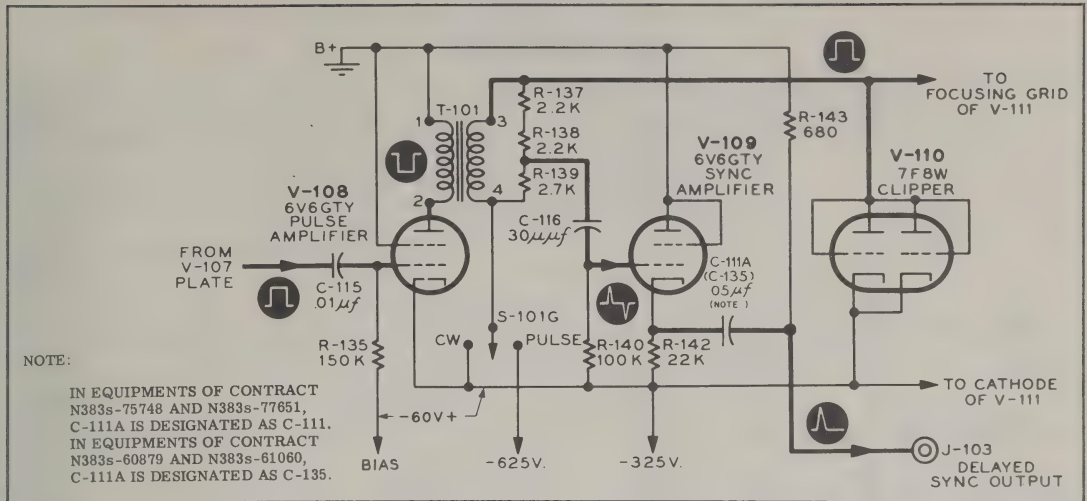

Figure 3-9. Signal Generator TS-419/U, Pulse Amplifier and Delayed Sync Amplifier, Simplified Schematic Diagram
(2) POS MOD OPERATION.—Tubes V-106 and V-107 become a two-stage video amplifier when external positive pulses are used directly to modulate the klystron. By means of S-101F (position B) the grid of V-106 is disconnected from feed back capacitor C-126 and tied to the EXT MOD connector J-104 through C-128. The grid of V-107 is fed from the plate of V-106 by C-114 through S-101E (position B) and R-130 is shorted out by S-101D (position B). These changes are required to provide suitable and fixed time constants in the inter-stage coupling network. The output is taken from the plate of V-107. A positive input pulse overcomes the cut-off bias on V-106, causing plate current flow, and creates a negative pulse at the plate of V-106, thereby cutting off V-107 and causing a positive pulse to appear in the plate circuit of V-107. This pulse is used to drive the pulse amplifier V-108.
f. PULSE AMPLIFIER AND DELAYED SYNC OUTPUT. (See figure 3-9.)
(1) PULSE AMPLIFIER.—In all cases described previously, a positive-going pulse was supplied by V-107 to the grid of V-108, which is normally biased beyond cut-off. The positive potential thus impressed on the grid of V-108 causes the tube to draw heavy plate current through the primary of pulse transformer T-101. The resulting negative pulse across the primary of T-101 is stepped up in voltage and inverted in polarity in the secondary. The resulting positive-going output pulse is clipped by the action of V-110, and is applied to the focusing grid of the reflex klystron V-111, causing V-111 to oscillate for the duration of the pulse.
(2) **DELAYED SYNC OUTPUT.**—A pulse voltage is picked off the network R-137, R-138, and R-139 connected across the output of T-101. This pulse is differentiated by C-116 and R-140. The positive pip occurring at the leading edge of the pulse overcomes the large bias on V-109 created by cathode resistor R-142, and V-109 conducts with a heavy cathode current. The negative pip occurring at the trailing edge of the output pulse has no effect on V-109. It should be noted that the positive pip impressed on the grid corresponds with the trailing edge of the output from the delay multivibrator V-104. Furthermore, it occurs at substantially the same time as the beginning of the r-f pulse. Thus, V-109 acts to provide a low-impedance output source for a positive video pulse at the **DELAYED SYNC OUTPUT** connector J-103 and also clips any negative portion of the pulse. For output pulse characteristics refer to paragraph 2.a.(10) of Section V.